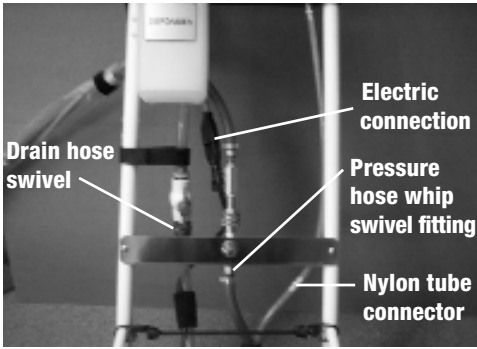

Figure 1
2. Unswivel both pressure hose whip swivel fitting and drain hose swivel (fig. 1). Unplug electrical connection and pull defoamer tube off nylon tube connector (fig. 1).